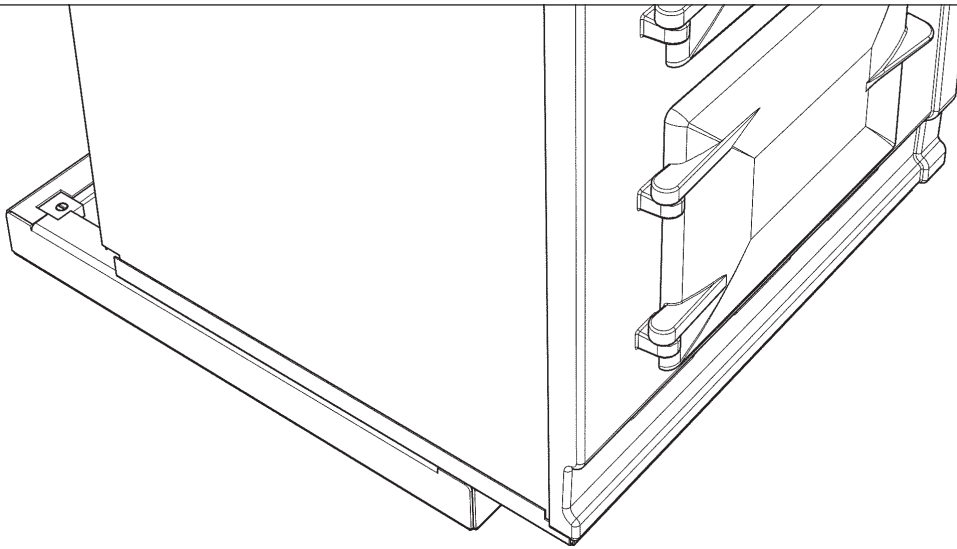

Fig. 10.1
3. Undo 2 screws from front location brackets and remove the bracket assembly. Now slide the Module off its plinth and set to one side **Fig. 10.1**.